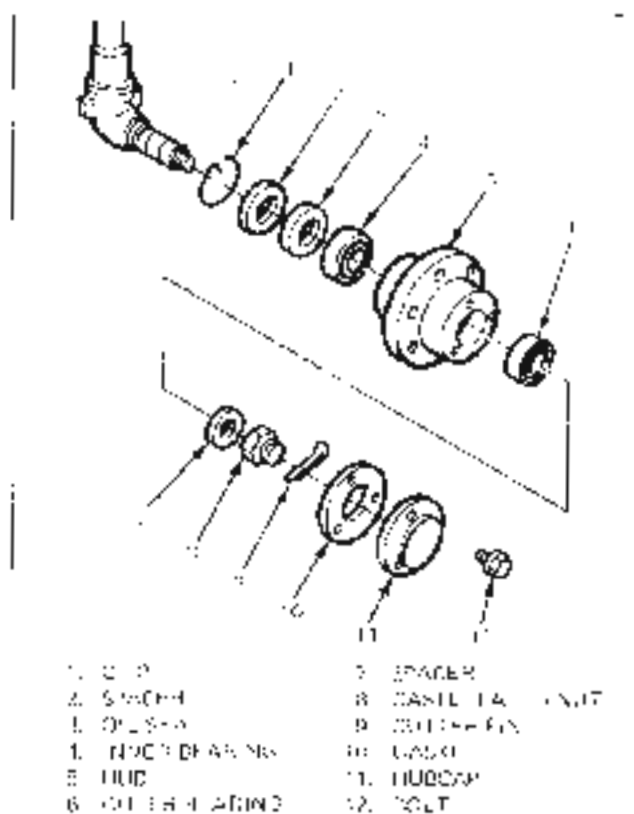

Figure 65. Servicing Front Wheel Bearings (Two-Wheel Drive [SD4300 and SD5000T]).
2. Jack up one of the front axles and remove the hubcap, the outer bearing cap (see Fig. 65). Remove the spacer on the bearing and then the complete wheel assembly.